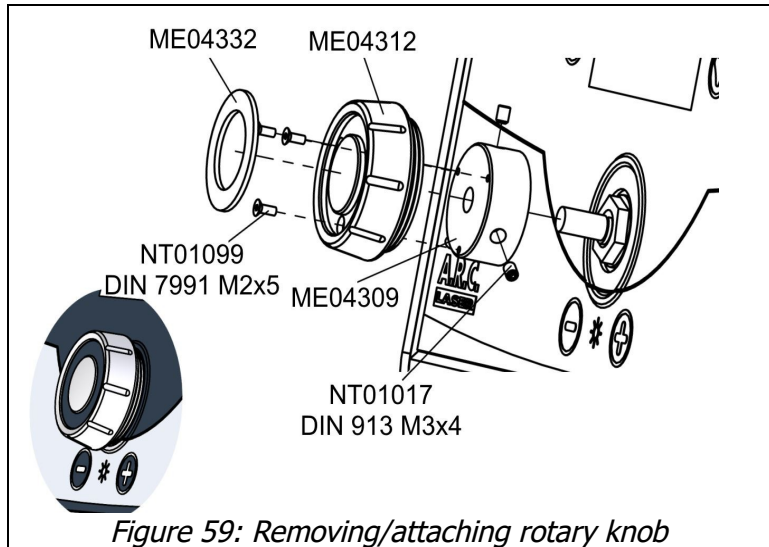

Figure 59: Removing/attaching rotary knob
- In Figure 59 you see all the screws and parts to remove at the front side to remove